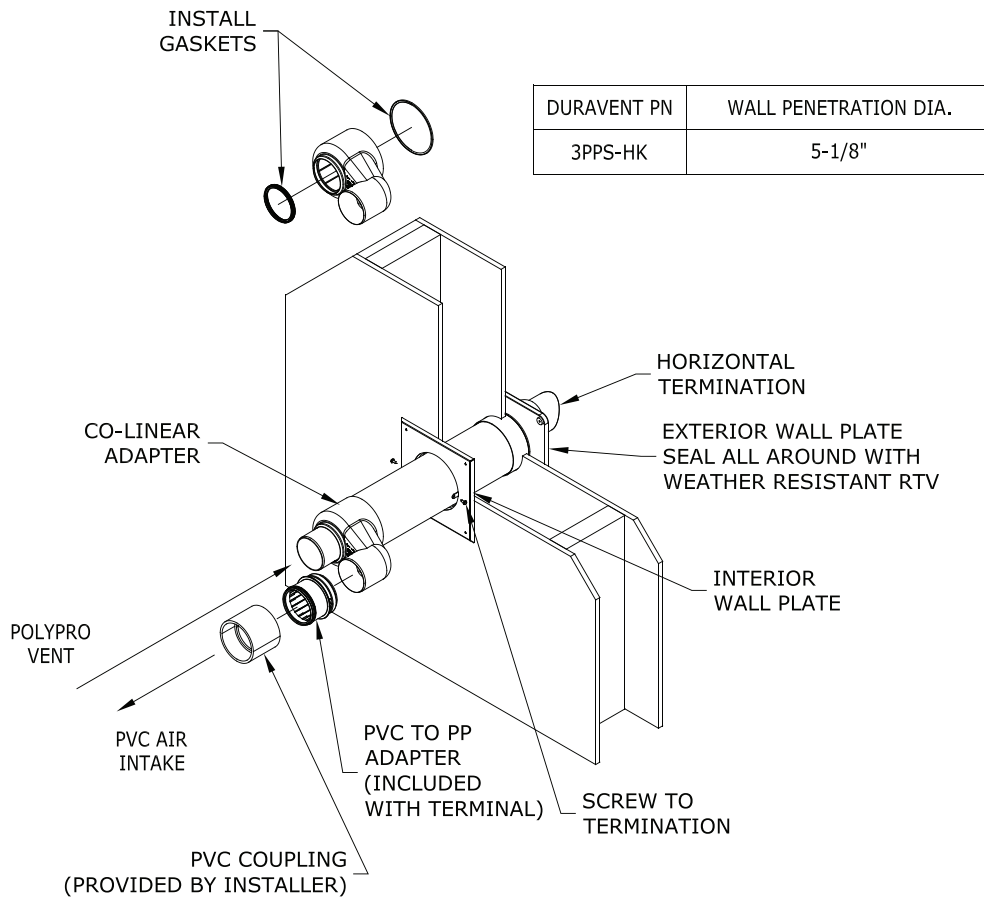

Figure 7.39: Installation of DuraVent PolyPro Concentric Vent Terminal Through Sidewall
6. Installation of DuraVent PolyPro Horizontal Concentric Vent Terminal (Terminal Option D) - Install PolyPro Horizontal Concentric Termination Kit #3PPS-HK (Figure 7.39) as follows: